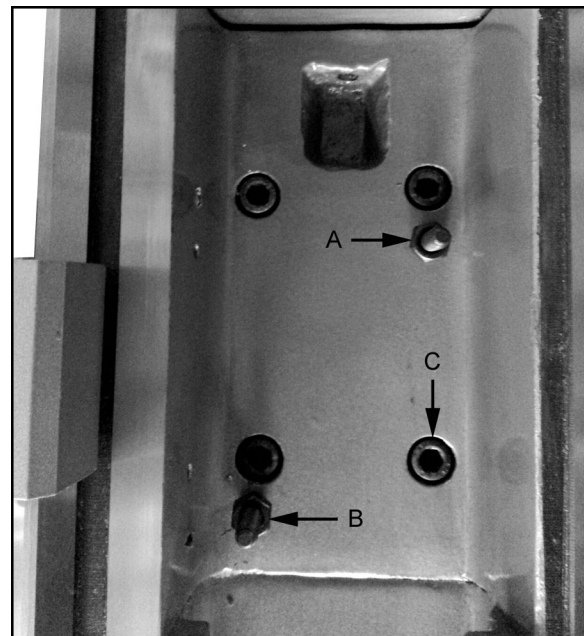

Figure 11-3
1. Using an open end wrench, tighten the two hex nuts (A, Figure 11-3). This will cause the taper pins (B, Figure 11-3) to release. Remove the taper pins.
2. Remove the four hex socket cap screws (C, Figure 11-3) with a hex key wrench.
3. Remove nuts (A, Figure 11-3) from taper pins (B, Figure 11-3).
5. Install four socket head cap screws (C, Figure 11-3) and tighten securely.